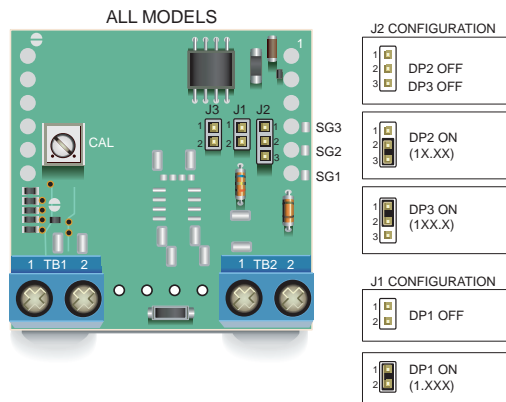

Figure 7. Decimal Point Selection Using J2 and J1 (Applies to All Models)
7. Decimal Point Selection: As shown in the Ordering Information guide, DCA5-20PC ammeters are multiple input-range devices. For example, with a 50mV input, DCA5-20PC-1-DC1 models can be configured to display "5.00", "50.0", or "500" Amps by simply removing or relocating decimal-point-selector jumper J2 (see Figure 7). Decimal points serve as placeholders only; they have no effect on displayed accuracy or resolution. If jumper J2 is not available, solder gaps SG1, SG2, or SG3 can be used to select DP1 ("1.XXX"), DP2 ("1X.XX"), or DP3 ("1XX.X"), respectively.